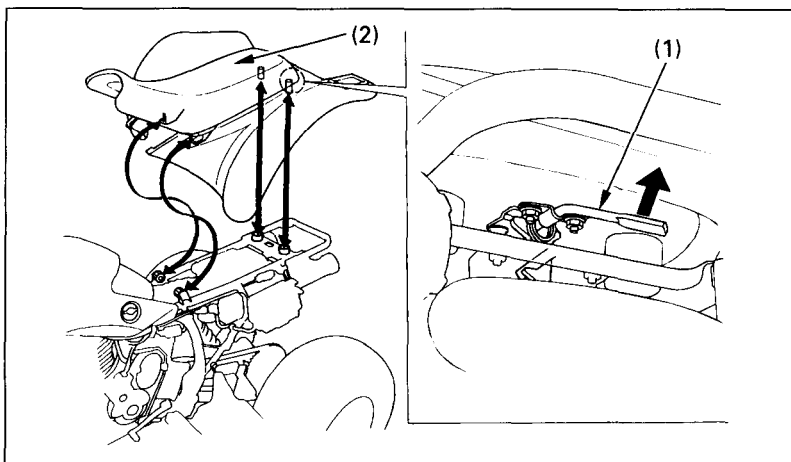

Fig. 4-32 (1) Seat lock lever
To remove the seat (Fig. 4-32), pull up the seat lock lever (1) behind the seat and lift it up.